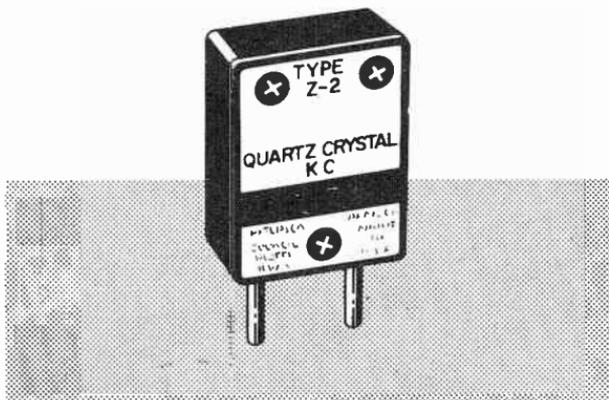
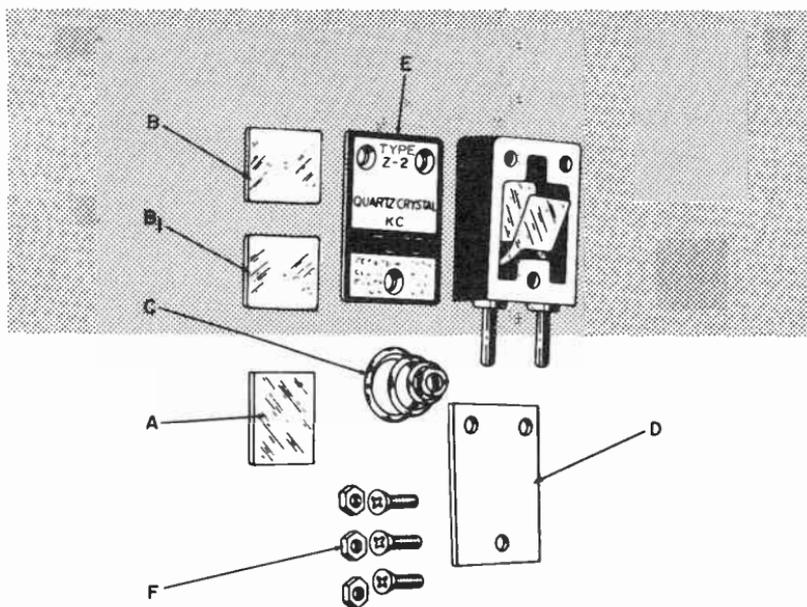

Fig. 6-3. A typical crystal holder.
Fig. 6-4. The internal construction of a crystal holder.
6-7. This, then, gives you some idea of what the crystal or rock is that is mentioned so frequently in amateur literature. To anyone with the least smattering of mechanical knowledge, it is obvious that such a quartz plate cannot be connected into a circuit by merely soldering wires to the two surfaces. You don't solder to a rock! Light, but firm, electrical contact with the two plane surfaces of the crystal is a must, though. This is achieved through a small device known as a crystal holder (Fig. 6-3). Ordinarily, your crystal comes factory-sealed in such a holder. Two prongs (like the ones on vacuum tubes) permit the crystal to be plugged into a suitable socket. A disassembled crystal holder is shown in Fig. 6-4. The holder is a small enclosure, generally of *Bakelite* and somewhat larger than the crystal. The crystal itself (A) is sandwiched between the two contact plates (B and B1). The sandwich is placed in the holder cavity, with the spring (C) on top, followed by the retainer plate (D) and the cover plate (E). The entire assembly is held rigidly in place by the screws (F).